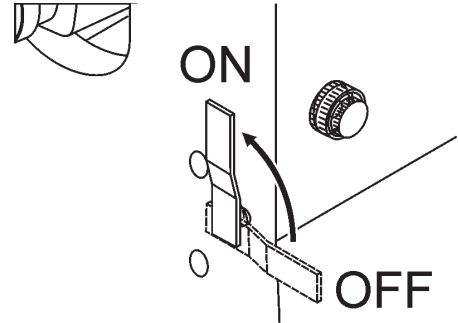

Figure 44. Water System ON/OFF Valve
4. Open the **water system valve** on the left side of the console by moving the lever to the **ON** position (Figure 44) and ensure the water is flowing equally to both sides of the diamond blade.